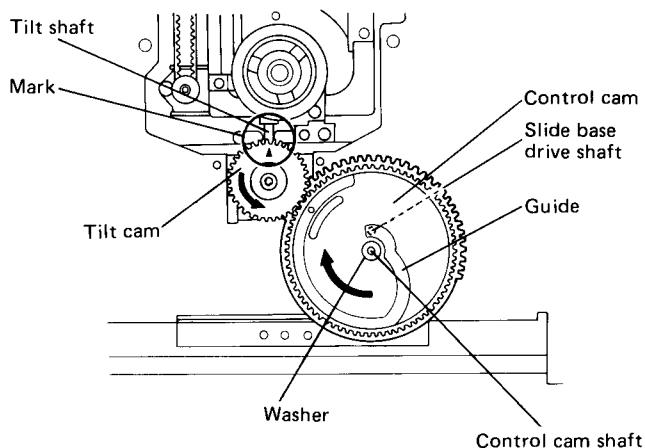

Fig. 12
2. Mount the control cam by passing the control cam's shaft through the hole on the center of the control cam and placing the slide base drive shaft into the guide groove on the back of the control cam, and secure the control cam with the washer. (Fig. 12)
3. Turn the control cam clockwise until it stops. Retain the control cam in this position until the tilt cam, gear (A) and loading gear have been mounted. (Fig. 12)
4. Holding the tilt cam so that its mark points to the tilt shaft, mount the tilt cam by passing the tilt cam shaft through the cam hole. Then, lower the tilt cam to a position with which the tilt cam gear does not engage with the control cam gear, and turn the tilt cam counterclockwise until it stops. (Fig. 12)